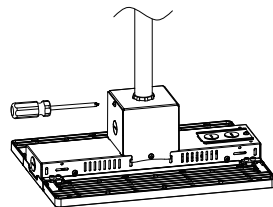

Figure 4
Step4 Lock side brackets with screw driver (Figure 4).